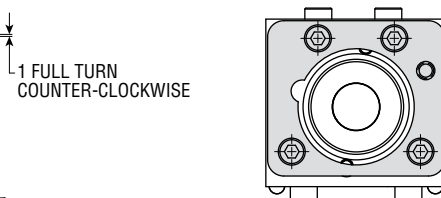

FIGURE 6
- 6) Unclamp the unit, remove the shim and two fasteners (item 7).
- 7) Rotate the flange plate (item 6) on the part support and align the four mounting holes as shown. (Figure 6)
- 8) Add the four screws (item 7) and tighten to 44 in-lbs.